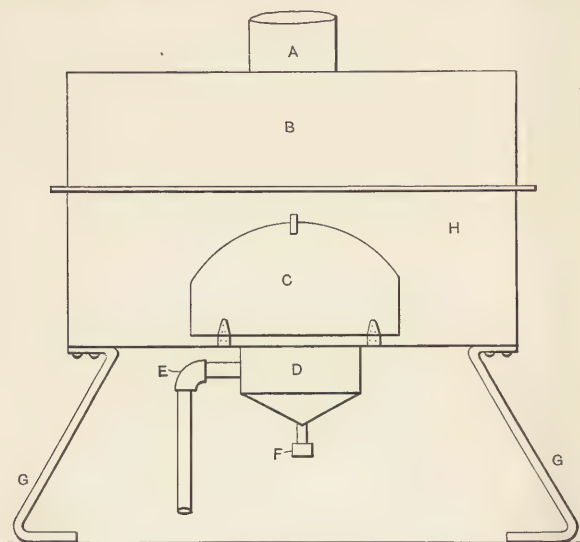

Fig. 4. Home-made Oven or Forge.
**Home-made Oven.**—In Figs. 4 and 5 is a home-made oven or forge for use in hardening and tempering. It can be made from  $\frac{1}{8}$ -inch sheet iron, and is supported by iron legs, built as shown, one at each of the four corners of the oven. Although shown with a stack and hood, at *A* and *B* respectively, neither of these is absolutely necessary. In fact the whole front *H*